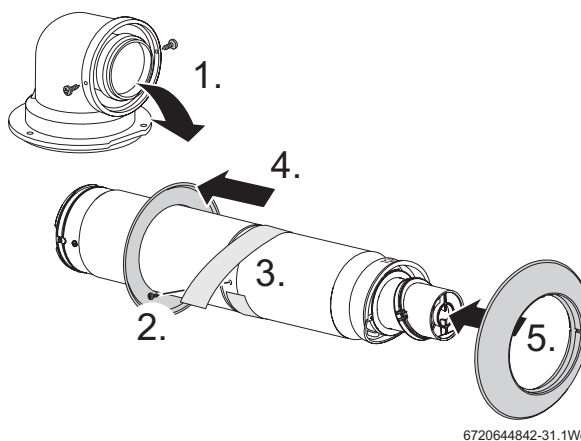

Fig. 15 Preparing the telescopic flue
1. Referring to figure 15, remove and retain the screws securing the telescopic flue to the turret. Disconnect the flue from the turret and discard the turret.